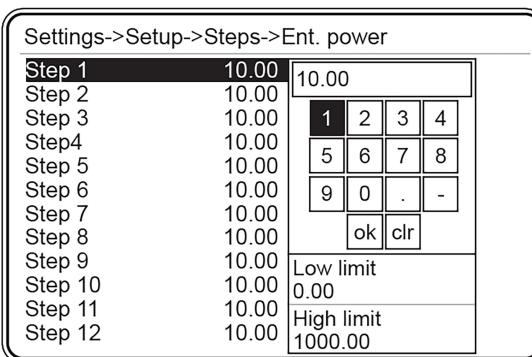

Figure 3.21: Ent. power menu
- Step types are corrected manually (See Figure 3.21 on page 3-11).